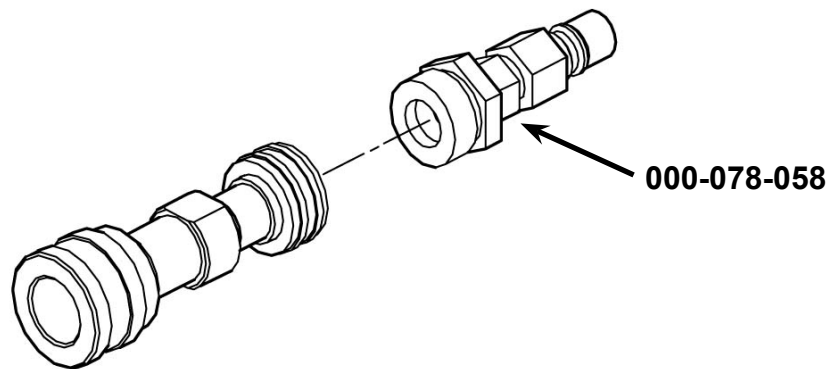

Figure 6. Recirculation Fitting
2. Attach the recirculation fitting provided in the kit to the garden hose quick connect (see Figure 6) and this combination to the front of the truckmount.